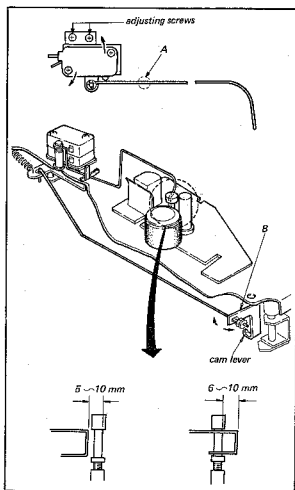

Fig. 4-23. Actuator adjustment
4. If the aforementioned conditions are not met, refer to Fig. 4-23 and proceed to the following steps. Set the Function Lever to STOP and check for 5 to 10 mm clearance between the top of the Actuator and the tape running surface. If not, turn the adjusting screws on the actuator mount or bend. Section B of the Cam Lever.